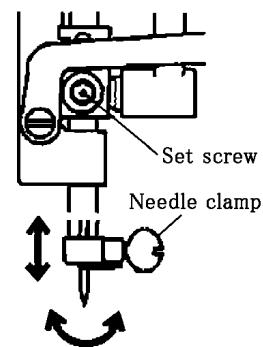

Fig.2
2. Loosen the set screw, adjust the height and direction of needle bar.(Fig. 2)
3. Tighten the set screw.(Fig. 2)